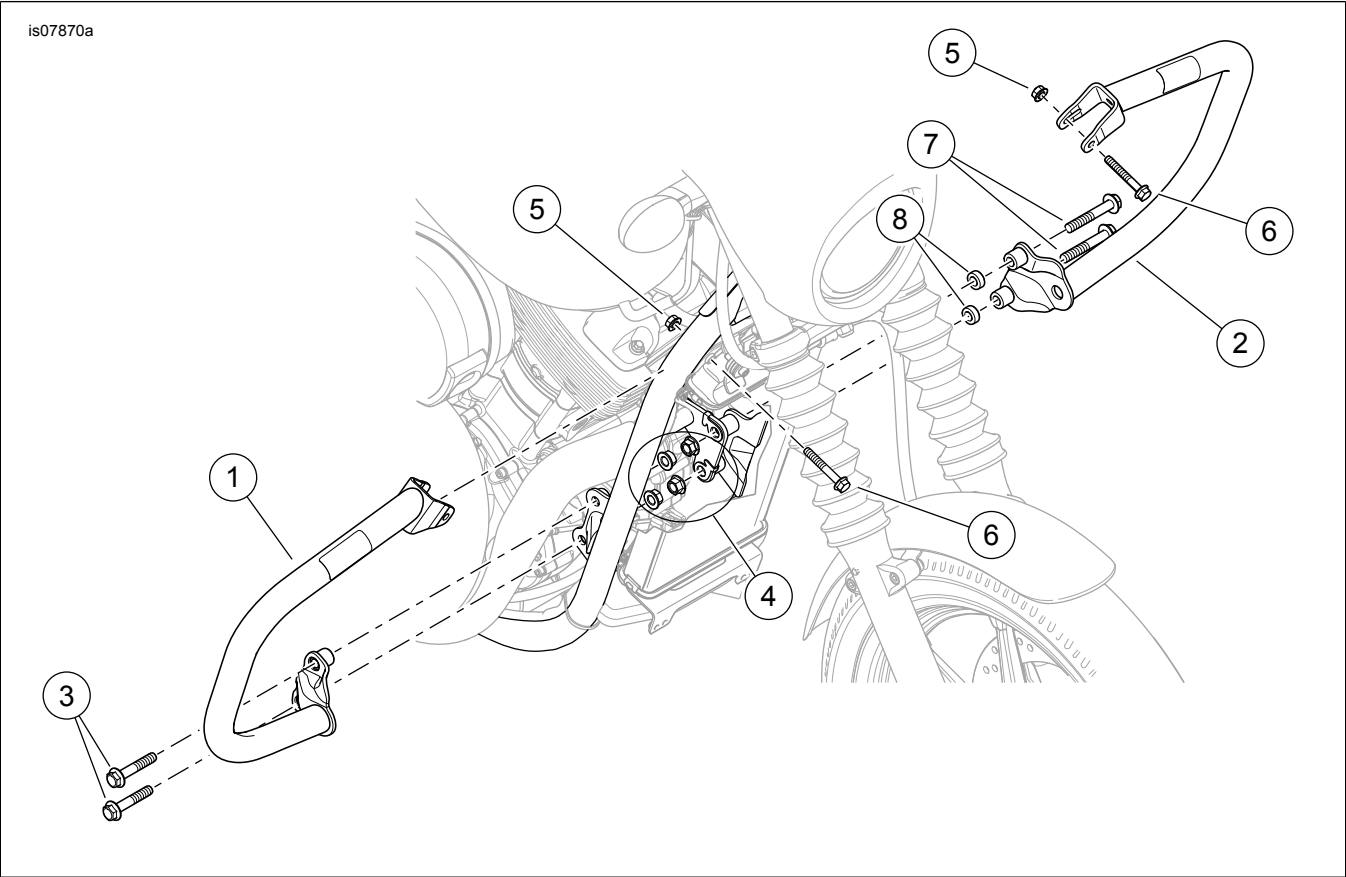

Figure 1. Kit Contents: Engine Guard Kit
See Figure 1 and Table 1.
1. See Figure 1. Secure right guard and engine mount using the hardware (3, 4) provided.